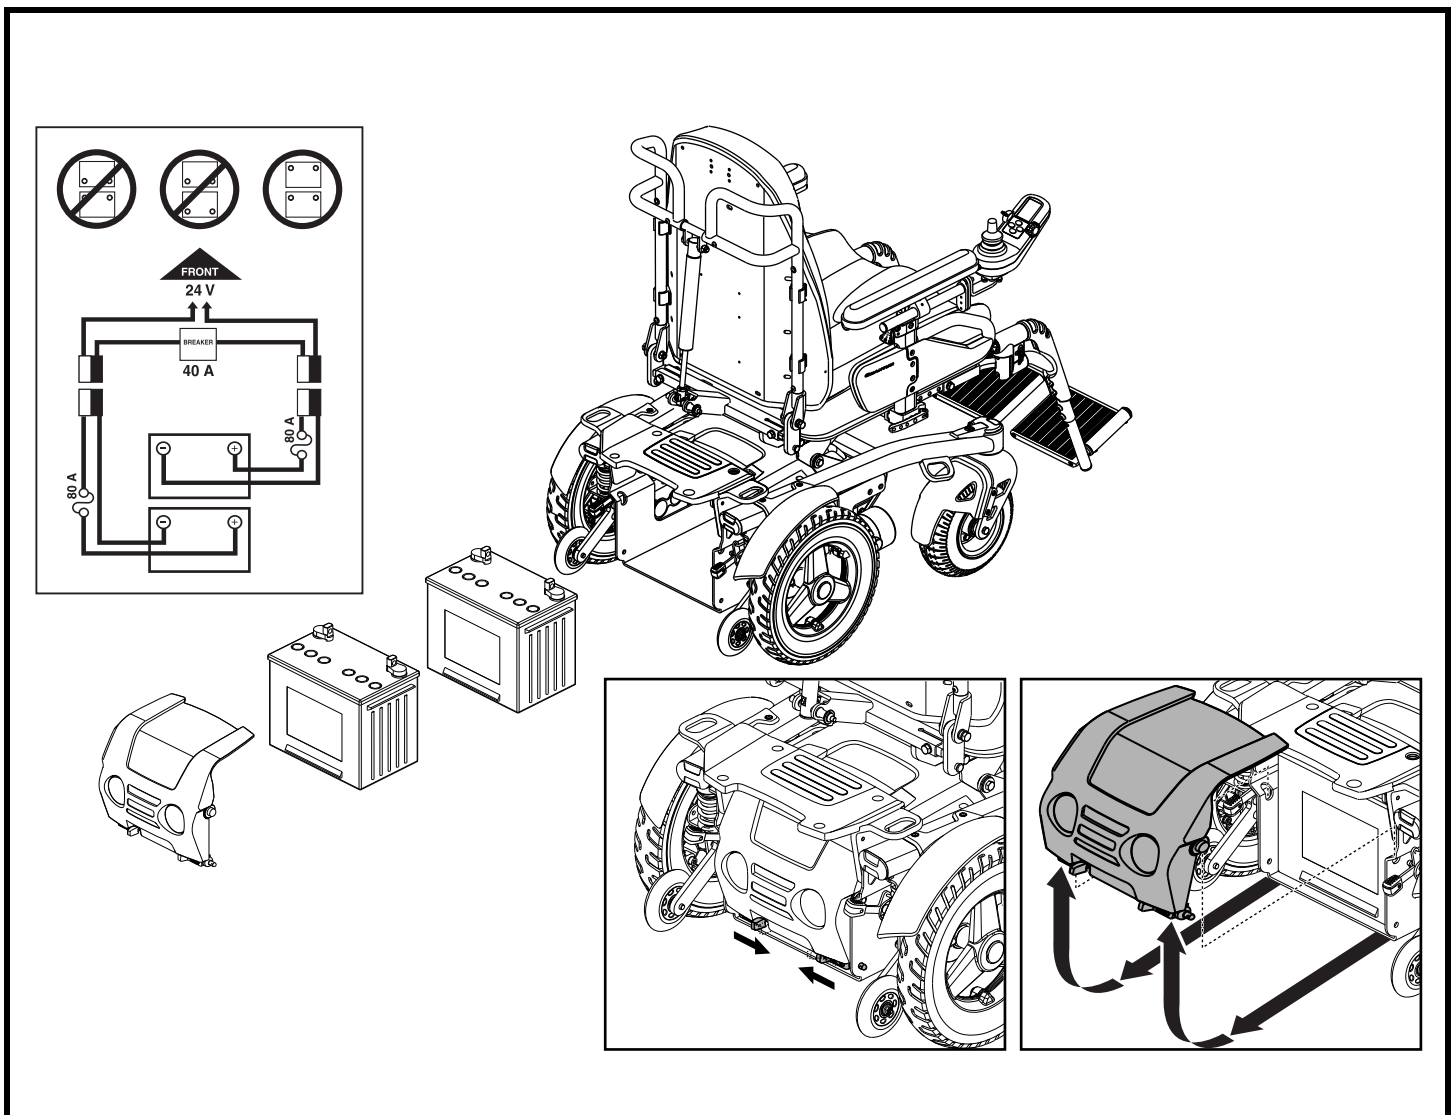

Figure 26. Battery Replacement
A battery wiring diagram is printed on a decal located on the battery door. See figure 26. Refer to the specifications table for correct battery specifications.
3. Slide the battery door latches toward the inside of the the power chair. See figure 26.
4. Lift with an upward rotation to remove the battery door. See figure 26.
5. Locate the battery quick disconnects on the frame and disconnect both of them. See figure 26.
10. Connect the battery quick disconnects according to the battery wiring diagram label located on the frame. See figure 26.